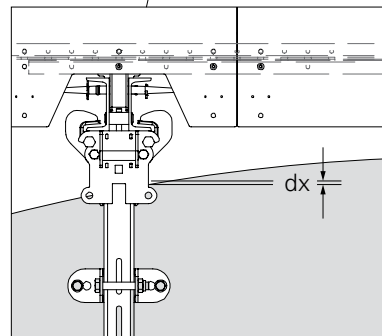

Fig. B4.01a
The lateral adjustability of the Slab Shoe (10) must be guaranteed. Therefore, during the planning phase, ensure that the gap  $dx$  between the building edge and the stop plate of the Slab Shoe is min. 10 mm along the whole width of the shoe. (Fig. B4.01a + B4.01b)